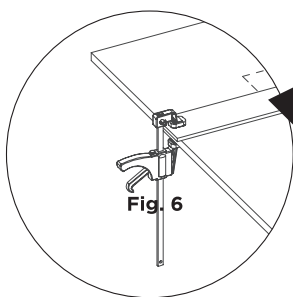

Fig. 6
- 4.6 Secure the cutting guides to the panel using pressure clamps (the use of a carpenter square is also recommended to ensure straight cuts). **(Fig. 6)**